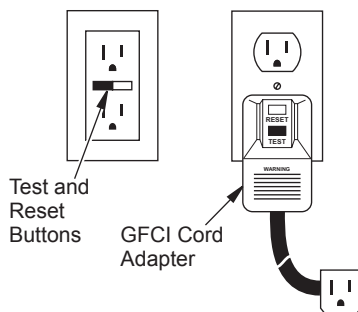

Figure 1 - GFCI Options
- Typical accepted GFCI devices are shown in Figure 1.